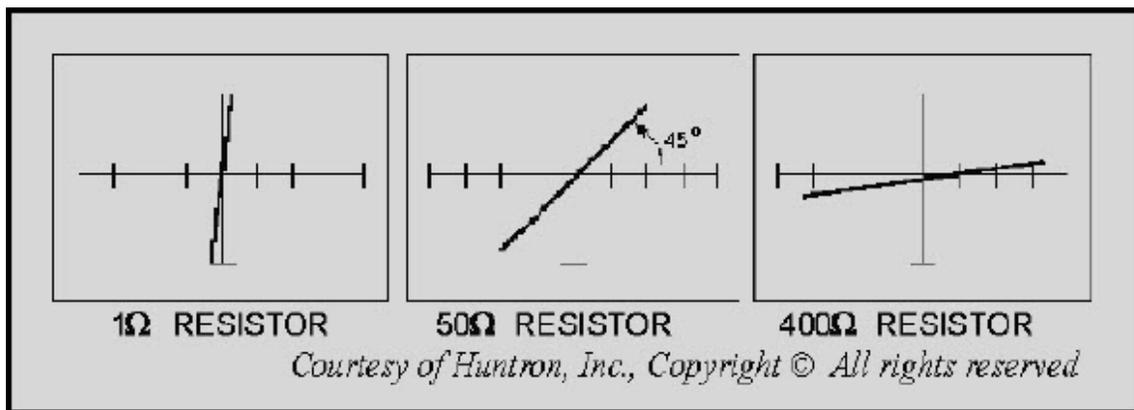

Figure 5-30 Effects of resistance on the rotation angle in low range
**LOW RANGE** - The low range is designed to test for resistance values between  $1\Omega$  and  $1K$ . Figure 5-30 shows the effect of resistance on the angle of rotation in low range. A  $1\Omega$  resistor causes almost  $90^\circ$  of rotation, and a  $50\Omega$  resistor produces a  $45^\circ$  rotation. A  $400\Omega$  resistor causes a very small rotation angle. Resistors lower than  $1\Omega$  will appear as a short circuit (vertical trace), and resistance values above  $400\Omega$  will look like an open circuit (horizontal trace).